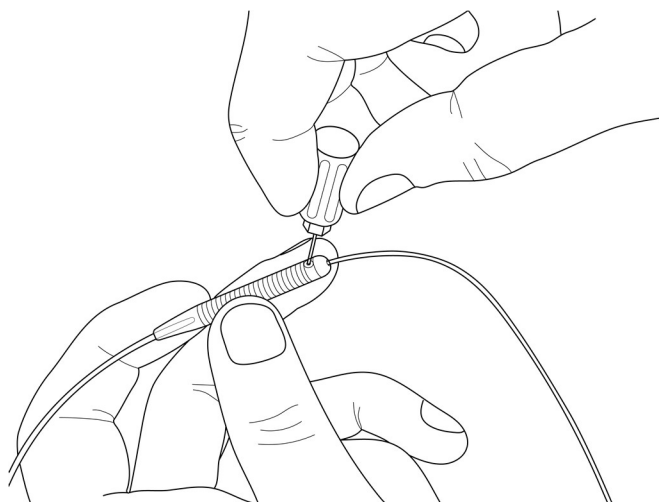

Figure 8.2: Tightening the set screw in the lead extension header block.
5. Fit the head of the torque wrench (supplied in the kit) into the setscrew in the lead extension connector block (refer to Figure 8.2).